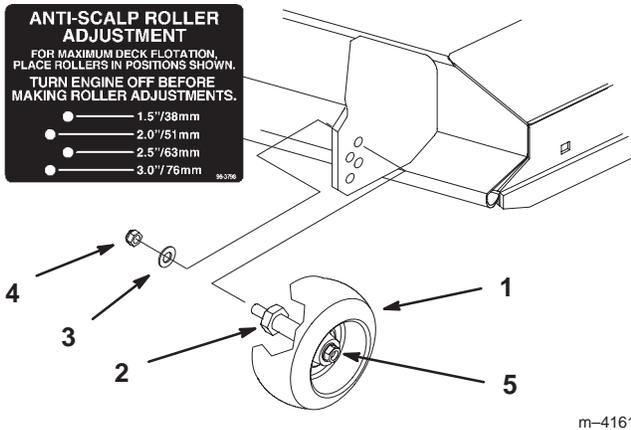

Figure 21
2. After adjusting height-of-cut remove flange nut and spring disk while holding stud with wrench (Fig. 21).
Note: Do not remove the wheel nut and washer (Fig. 21).
3. Select hole so gage wheel is positioned to the nearest corresponding height-of-cut desired (Fig. 21).
4. Reinstall the flange nut and spring disk. Torque to 40–45 ft-lb (54.2–61.0 N·m) (Fig. 21).